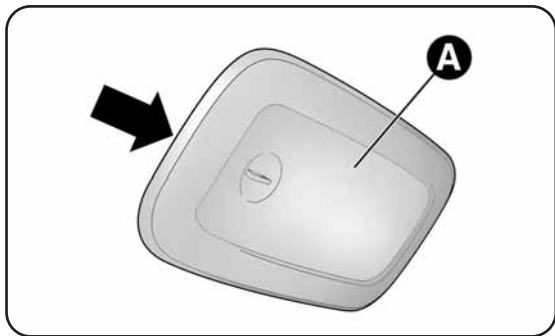

fig. 28
- work in the point shown by the arrow and remove light A-fig. 28;